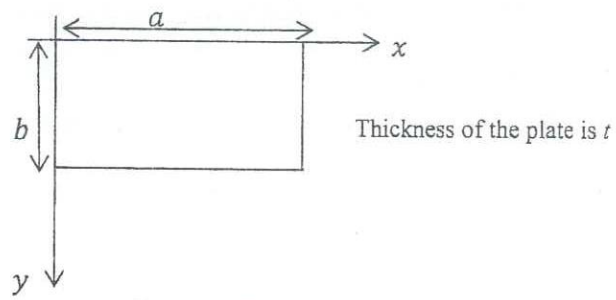

Figure Q2
- b) A thin rectangular plate of side dimensions ' a ' and ' b ' with thickness ' t ' is shown in Figure Q2. The plate is simply supported along all four edges. It is subjected to a vertical downward load of intensity,